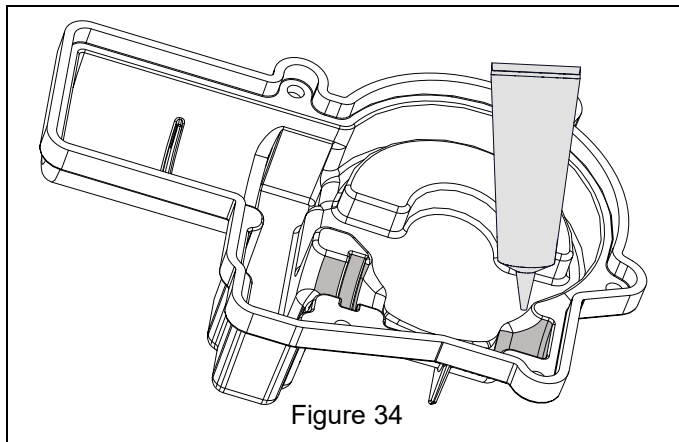

Figure 34
14. Apply light coat of lithium grease to case housing worm gear pockets. See Figure 34.